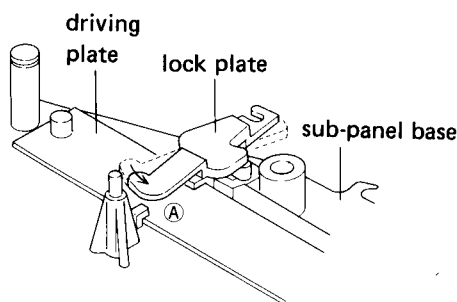

Fig. 7-6 Cam assembly attachment
The cam assembly is attached by letting the lock plate go in the direction (A) as shown in figure 7-6.